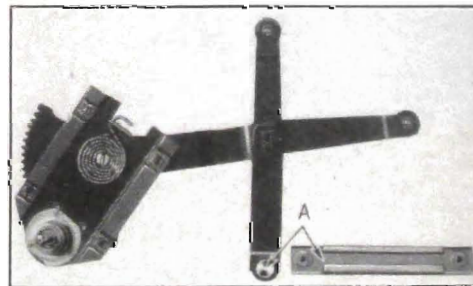

Fig. 1-68. Door Window Regulator
- 1. Insert the regulator assembly in place and install guide plate on regulator arm. (See "A", Fig. 1-68.)